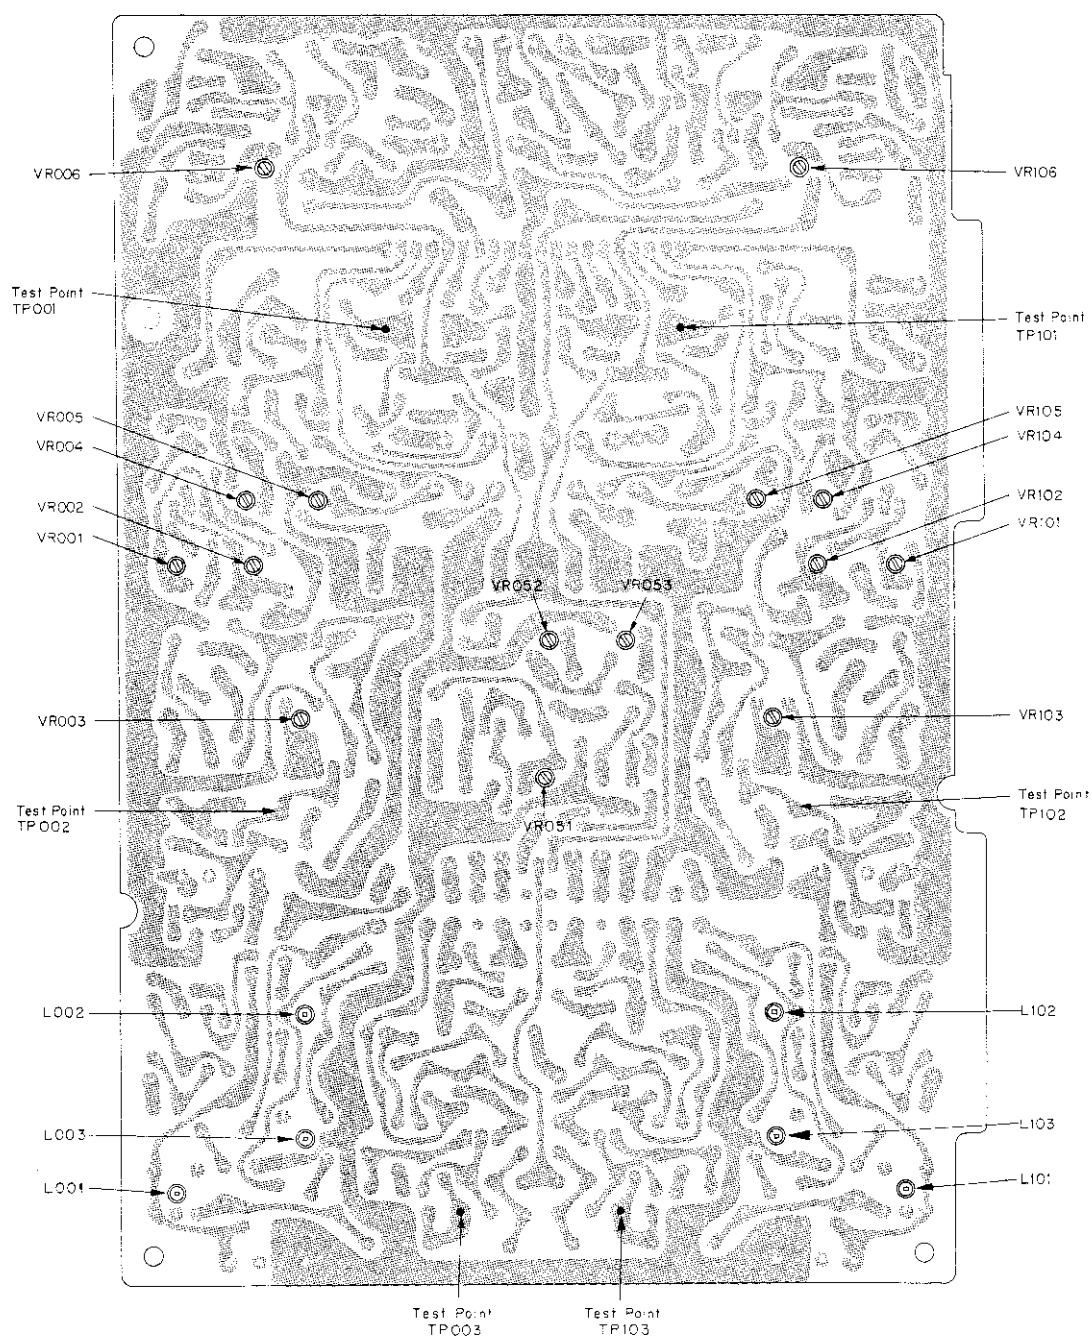

Figure 15. Location of Pre-amplifier P.C. Board
See figures 15 and 16.
4. Set Test Tape (No. MTT-150 DOLBY B-TYPE TONE, 200nWb/m), and push the Play Button, and adjust the Semi-fixed Resistors (VR004, 104) so that the VTVM indicates 580mV. See figures 15 and 18.
3. Set Test Tape (No. MTT-150 DOLBY B-TYPE TONE, 200nWb/m), push the Play Button, and adjust the Semi-fixed Resistors (VR006, 106) so that the Level Meter indicates Dolby mark ($+3\text{dB} \pm 0.1\text{dB}$). See figures 15 and 19.
3. Turn the Tape Selector Switch ON (CHROME) and playback the Test Tape (No. MTT-115, 6.3kHz/333Hz), then adjust the Semi-fixed Resistors (VR001, 101) so that the output level at 6.3kHz is -4.5dB for reference output level at 333Hz. See figures 15 and 20.